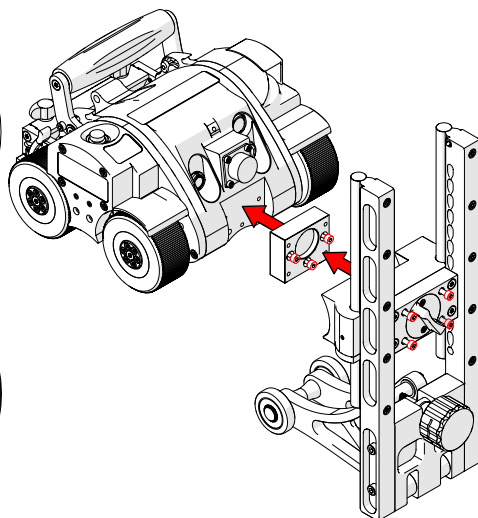

Fig. 2 - Attach adapter block and main assembly to the crawler
2. Detach the adapter block from the main assembly (*Fig. 2-B*).
3. Bolt the three adapter block screws to attach the adapter block to the crawler (*Fig. 2*).
4. Bolt the four screws of the main assembly to the adapter block (*Fig. 2*).